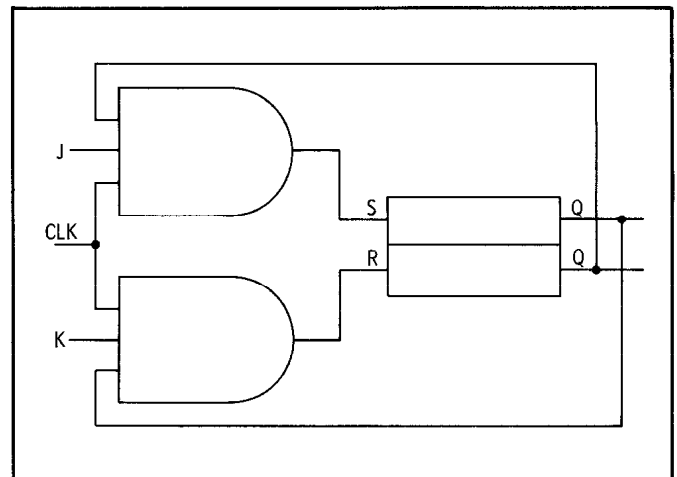
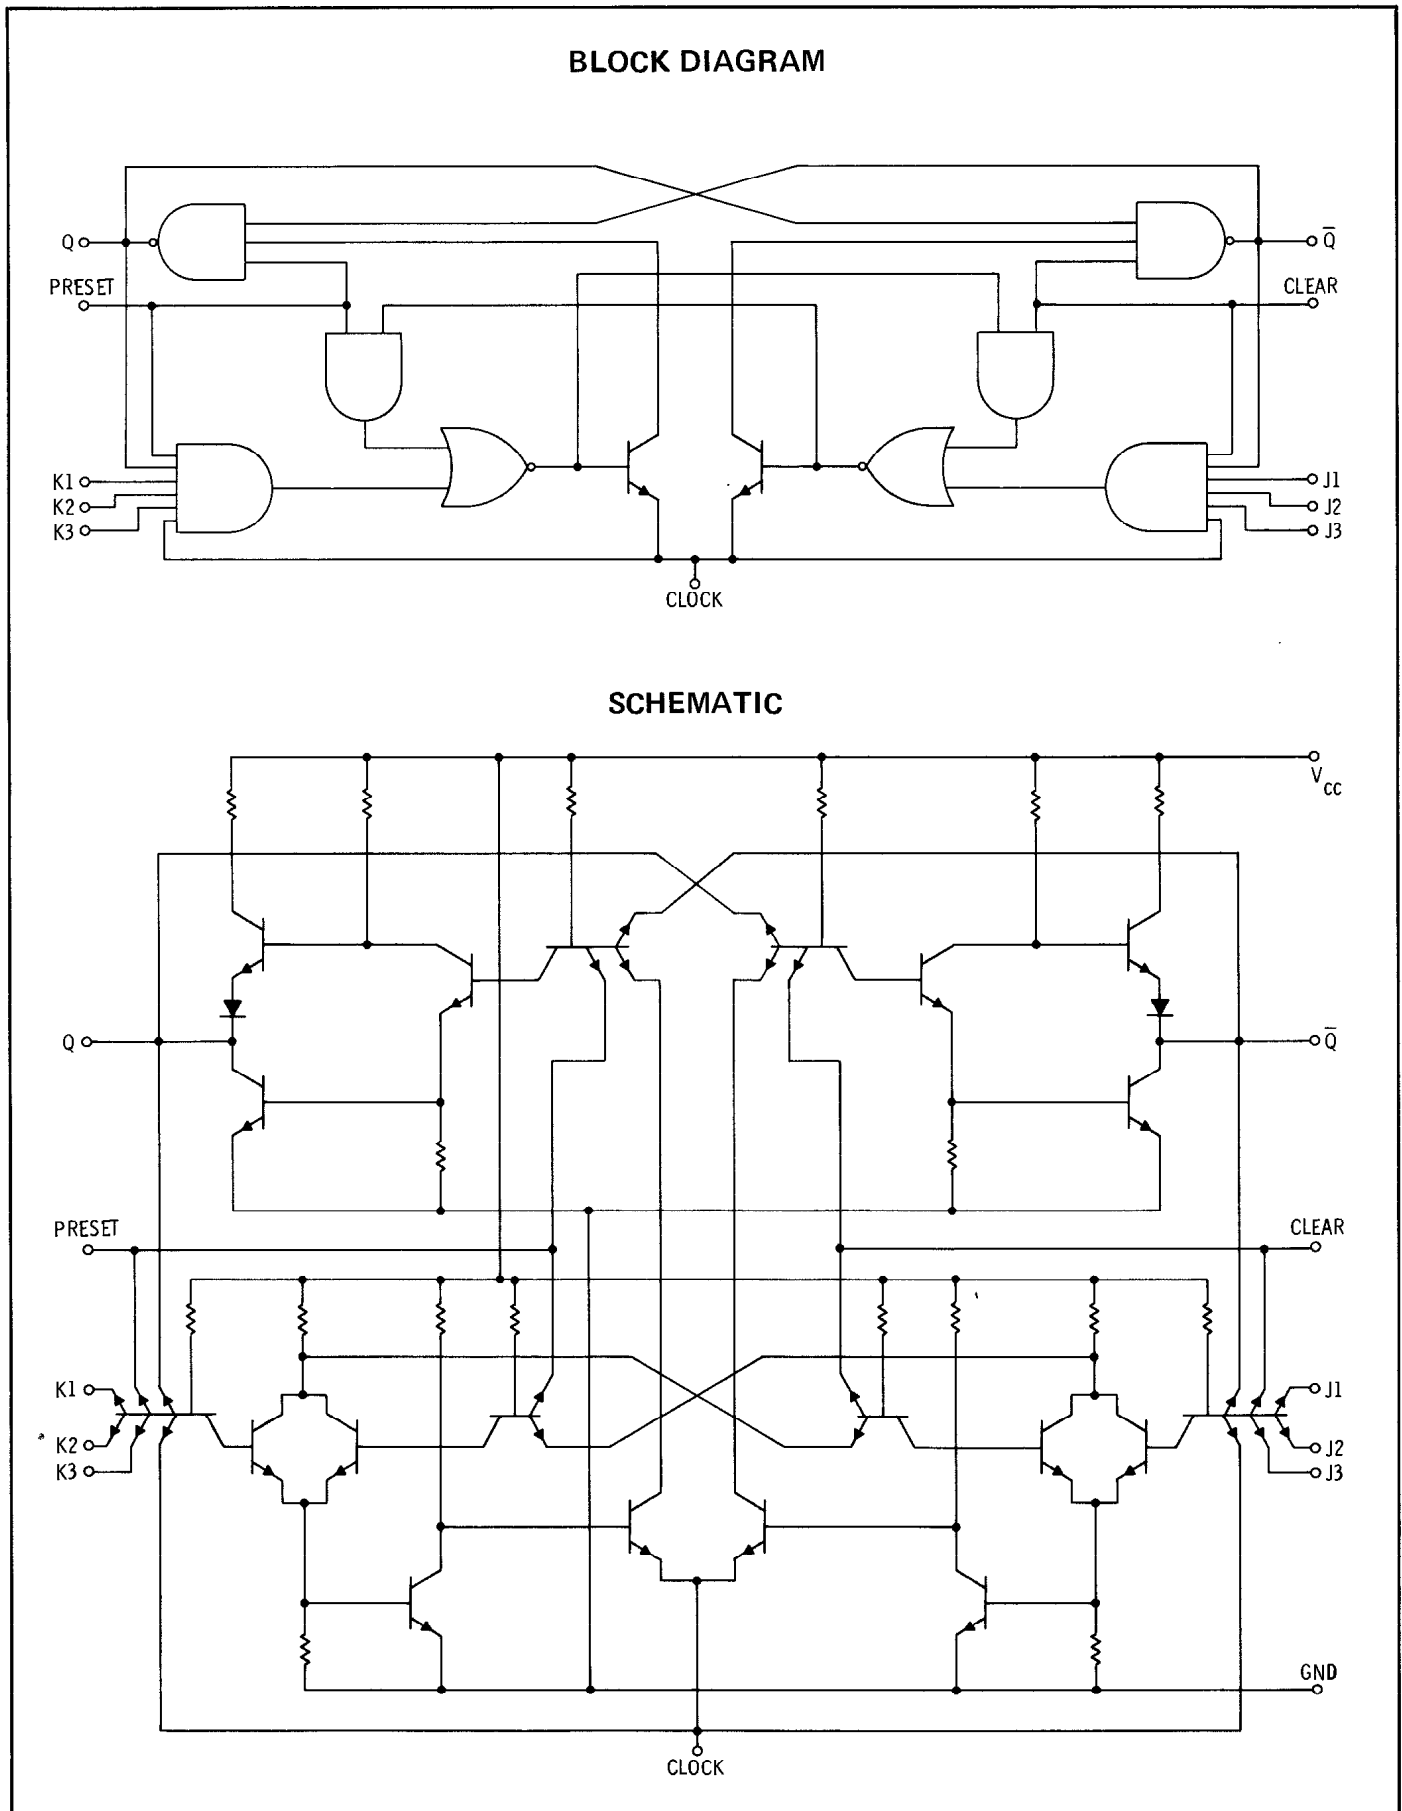

Figure 8-9. Clocked JK Flip-Flop
Figure 8-10. JK Master-Slave Flip-Flop (Typical)
**8-40. CLOCKED JK FLIP-FLOP.** A clocked JK flip-flop is triggered by an input clock pulse when certain conditions prevail at the J and K inputs. Figure 8-9 illustrates the logic symbol for a JK flip-flop derived from a RS flip-flop and two three-input AND gates. Figure 8-10 shows a typical JK flip-flop integrated circuit schematic diagram. JK flip-flops have three inputs (J, K and